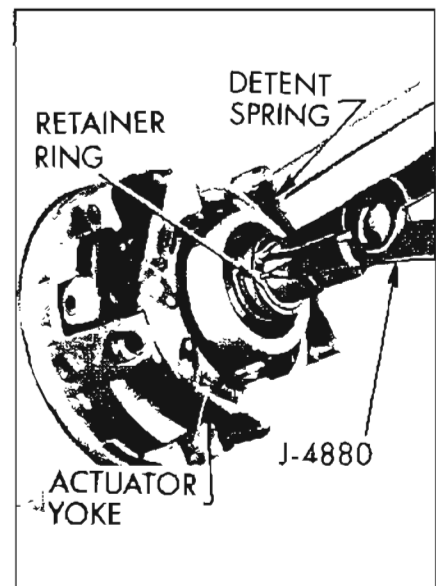

Figure 8-81—Removing Retainer Ring
6. Remove the upper shaft retainer ring using No. 2 Truarc Pliers J-4880. See Figure 8-81.